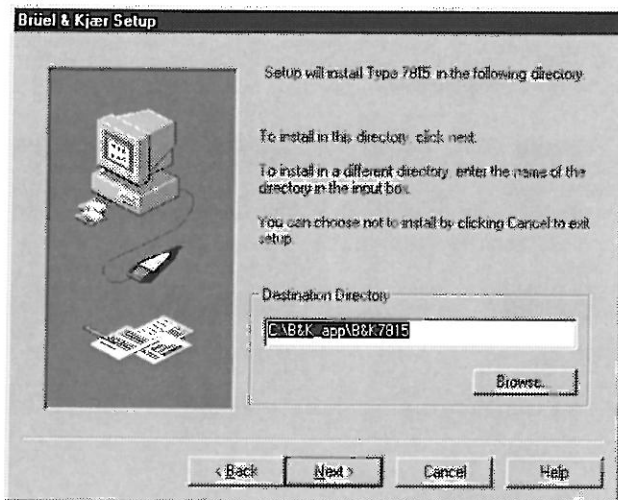

Fig.5 The Noise Explorer home directory is specified in the Destination Directory box
9. The dialog box shown in Fig. 5 will be displayed. To accept the proposed drive and directory choose  .